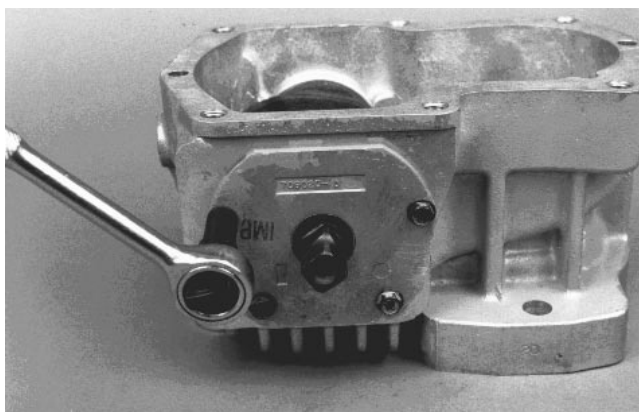

Figure 55
16. Remove hex tapping screws retaining trunnion seal cover and trunnion cover to housing (Fig. 55). Mark position of covers for reassembly. The trunnion seal cover assembly includes an o-ring, lip seal and trunnion bearing on the control side. The trunnion cover assembly includes an o-ring and trunnion bearing on the side opposite the control. Remove these parts from the housing.